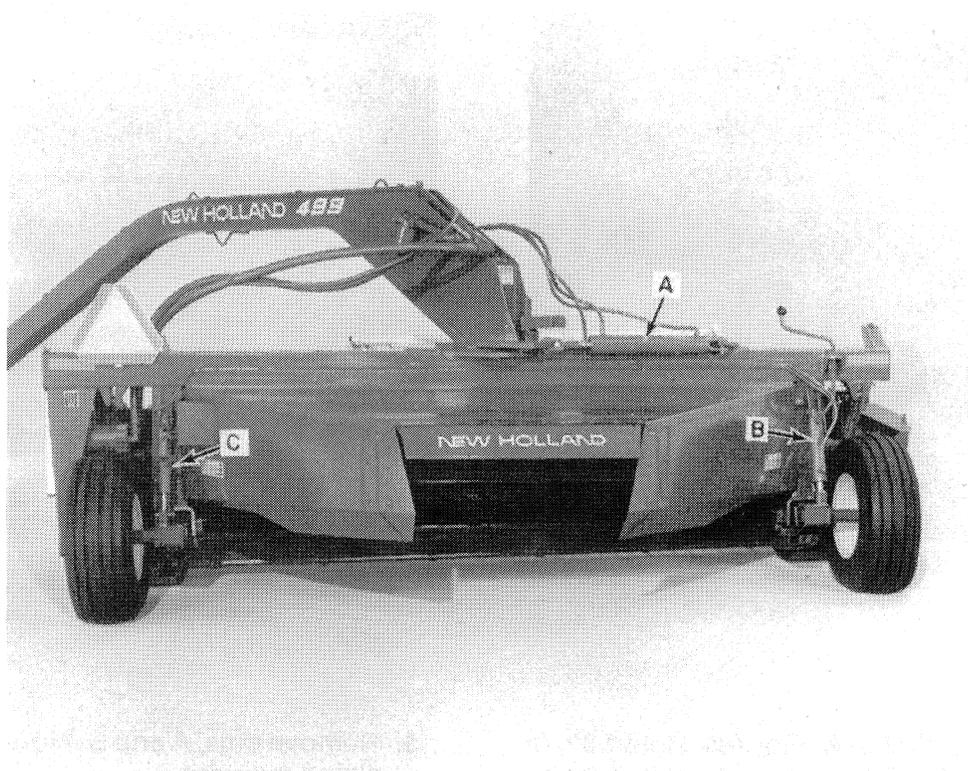

FIGURE 30
Three different cylinders are used on the machine. The swing cylinder, A, Figure 30, is a double-acting cylinder. The right lift cylinder, B, is a master cylinder that supplies oil to the left lift cylinder, C. The left cylinder operates as a slave cylinder.
**WARNING: BEFORE ATTEMPTING TO REMOVE LIFT CYLINDERS, B AND C, FIGURE 30. DO THE FOLLOWING:**